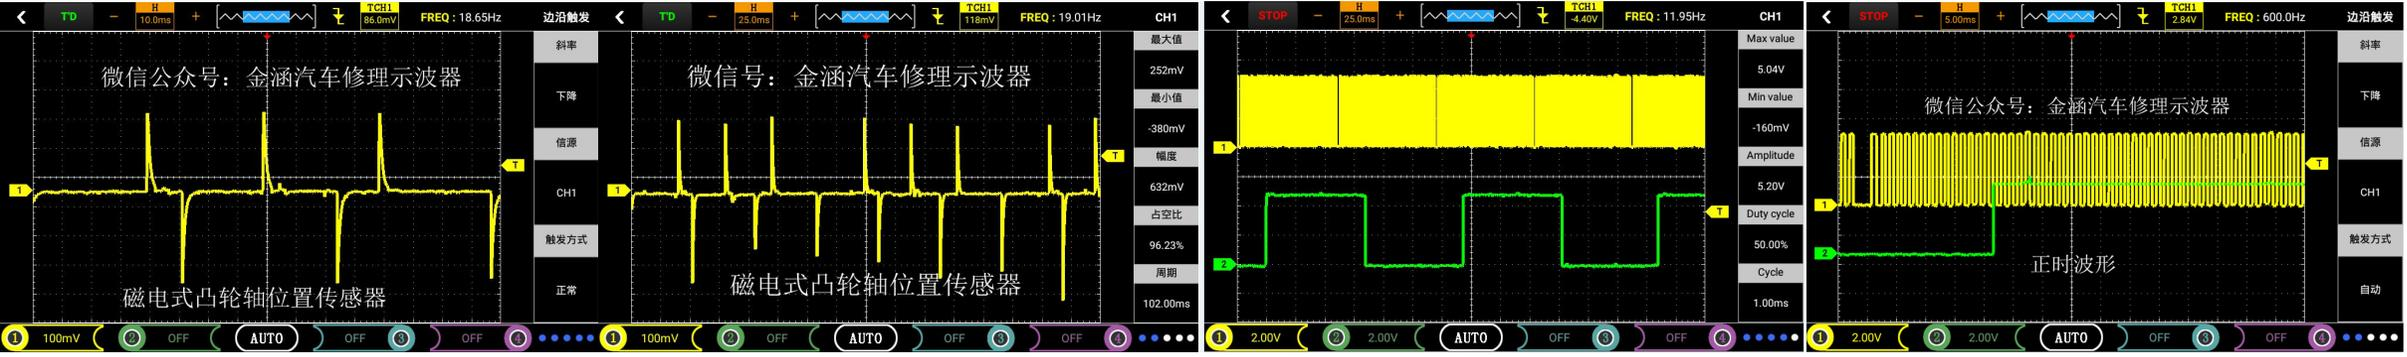

Figure 13
- ① Same as the crankshaft position sensor.
- ② After entering the main menu interface, select "Sensor", then enter the sub-menu and click on "Crankshaft, camshaft position sensor" to enter the secondary submenu. Click "Magnetic" or "Hall type" to enter the oscilloscope interface. (Note: If the oscilloscope interface is stuck, wait for a few seconds to enter.)
- ③ Connect the two probes to the oscilloscopes CH1 and CH2 and set the probe to 1X, and then ground the signal to ground or ground.
- ④ Since the "Magnetic" and "Hall" functions of the oscilloscope have been set by default (probe 1X, time base 10.0ms), simply connect the two probes to the corresponding signals to visualize the waveforms, as shown in the figure 13.